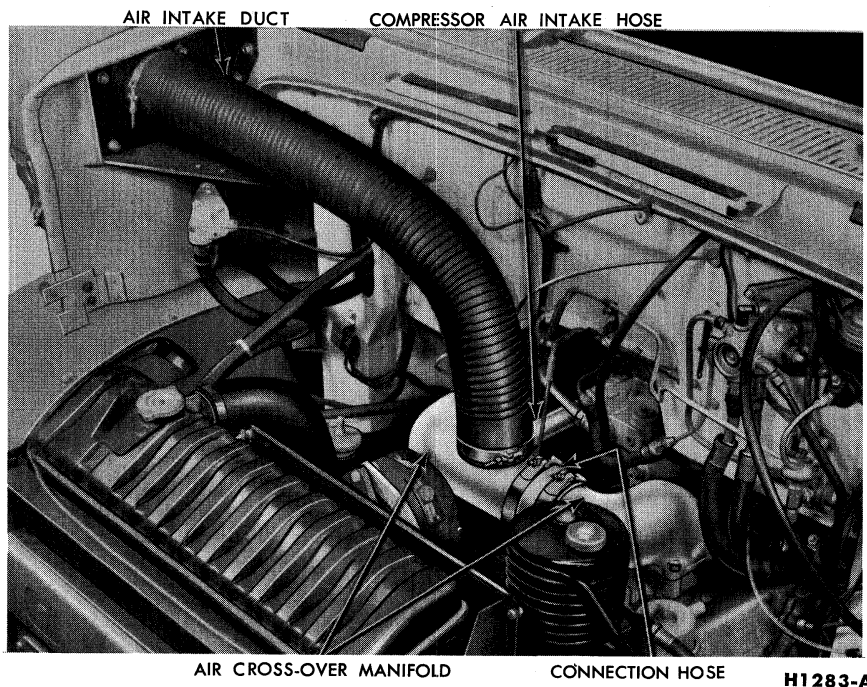

FIG. 11—Air Intake System—N-Series—Typical of H-Series
1. Disconnect the air intake duct from the air cross-over manifold (Fig. 11).
1. Install the right air cross-over manifold to the engine intake manifold, connect the compressor air intake hose to the cross-over manifold and to the compressor, and position the connection hose on the right and left cross-over manifolds (Fig. 11).